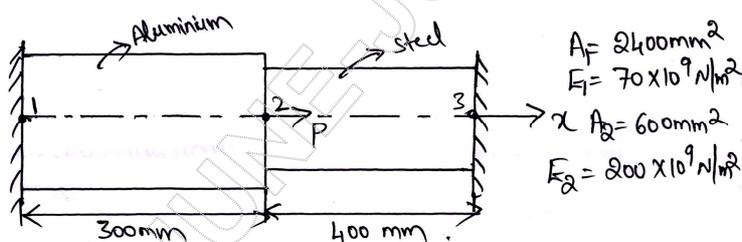

Fig.Q6
- 6 Consider the bar shown in Fig.Q6. An axial load  $P = 200 \times 10^3$  N is applied as shown using the penalty approach for handling Boundary conditions, do the following :